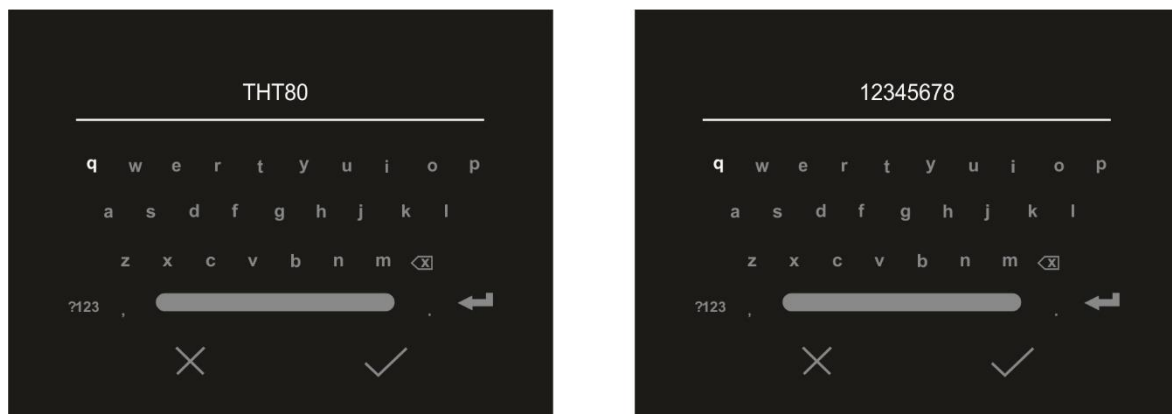

Fig. 18: Definition of SSID and Password of the WiFi connection
3. Touch item “SSID” to define a custom identification ID of the WiFi connection. The screen in Fig. 18 – left side appears on the display.
5. Touch item “Password” to define a custom Password for the WiFi connection (default “12345678”). The screen in Fig. 18 – right side appears on the display.